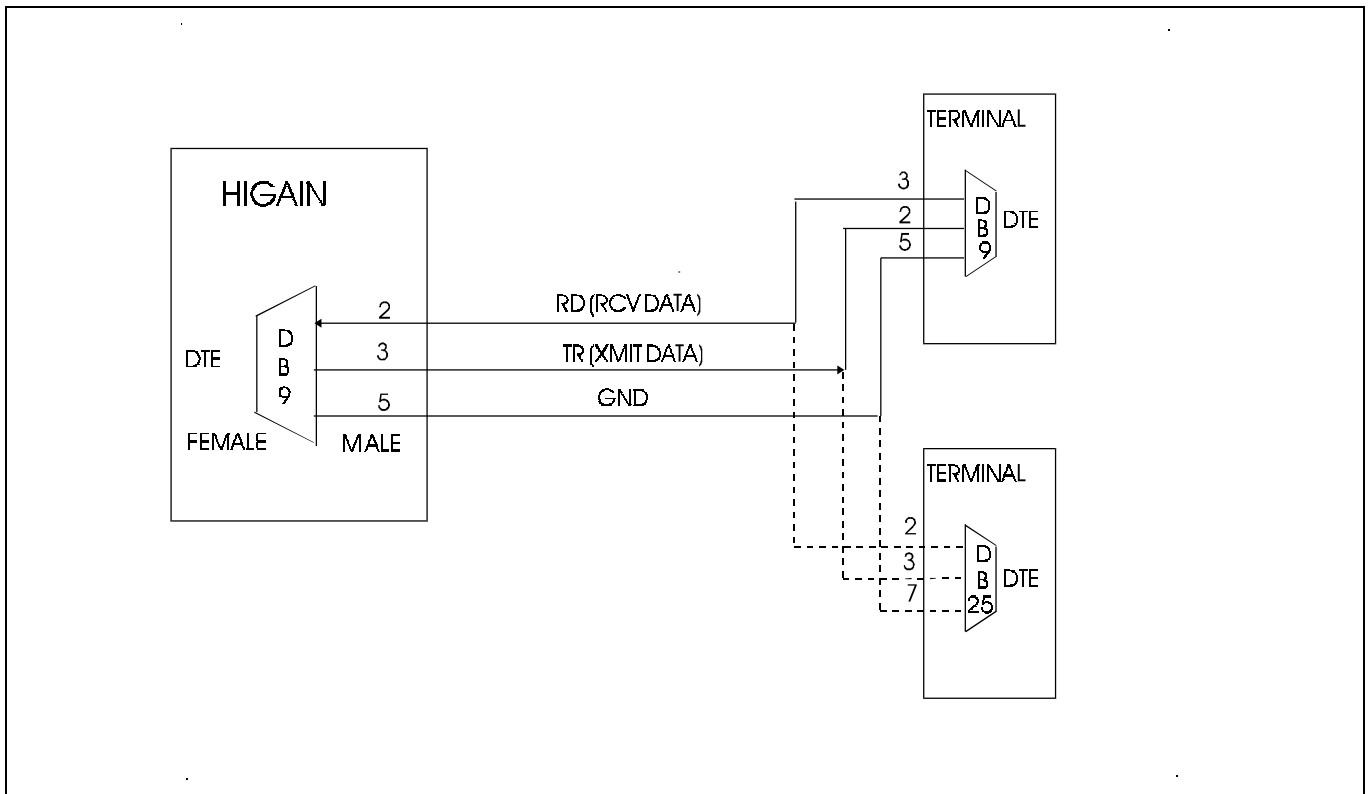

Figure 7. RS-232 Pin Assignments.
7.05 RS-232 Connections: Connector J2 wiring is shown in Figure 7. J2 is configured as an RS-232 DTE port. TD and RD are the names assigned to the pins per this RS-232 standard. The signal on RD is
an input to HiGain. That on TD is an output from HiGain. The port requires only pins 2, 3 and 5 to be connected. Typical connections to both DB 9 and DB 25 DTE terminal connectors are shown in Figure 7. J2 provides access to a local diagnostic terminal.